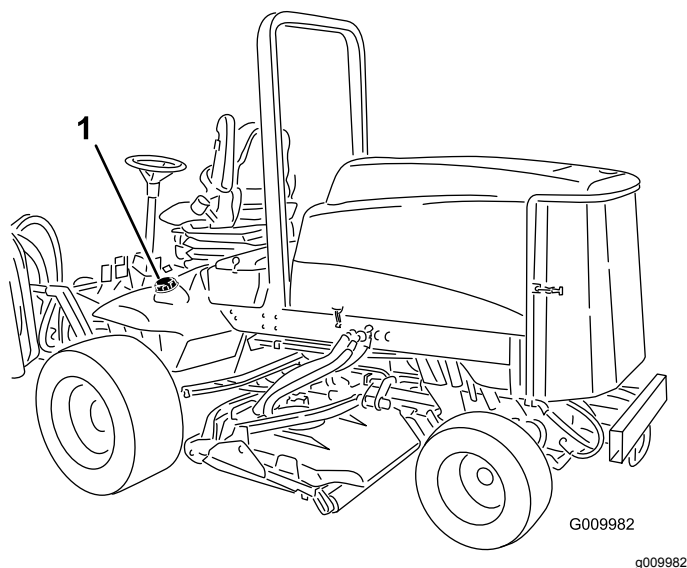

Figure 17
1. Remove the fuel tank cap (Figure 17).